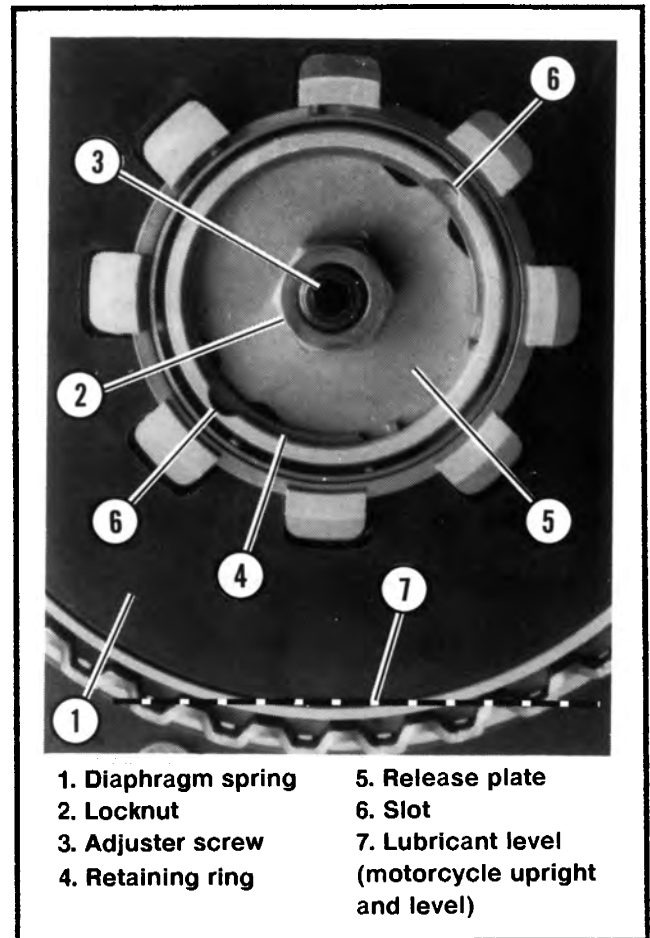

Figure 6-27. Push Rod Adjustment
5. See Figure 6-27. With vehicle standing upright, the lubricant must be level with the bottom of the outer diameter of the diaphragm spring (1).
The clutch adjustment should be performed with the motorcycle at room temperature. See Figure 6-27. The clearance at the adjuster screw (3) will increase as the power train temperature increases. If adjuster screw is adjusted with power train hot, clearance at push rod bearing could be insufficient with power train cold and clutch slippage could occur.
4. See Figure 6-27. Loosen clutch adjuster-screw locknut (2) and turn push rod adjusting screw (3) inward (clockwise) to take up all free play in push rods.
4. See Figure 6-27. Loosen locknut (2) and remove adjuster screw (3) and locknut.
2. See Figure 6-27. Remove retaining ring (4) and release plate (5). A small screwdriver may be inserted in either of the slots (6) to aid removing retaining ring (4).
9. Turn handle (4) clockwise to compress the diaphragm spring and move the clutch spring seat (5) inward enough to allow installing retaining ring (6). The ends of retaining ring (6) must not overhang the posts or bosses on the clutch hub. See Figure 6-27 for a properly installed retaining ring.